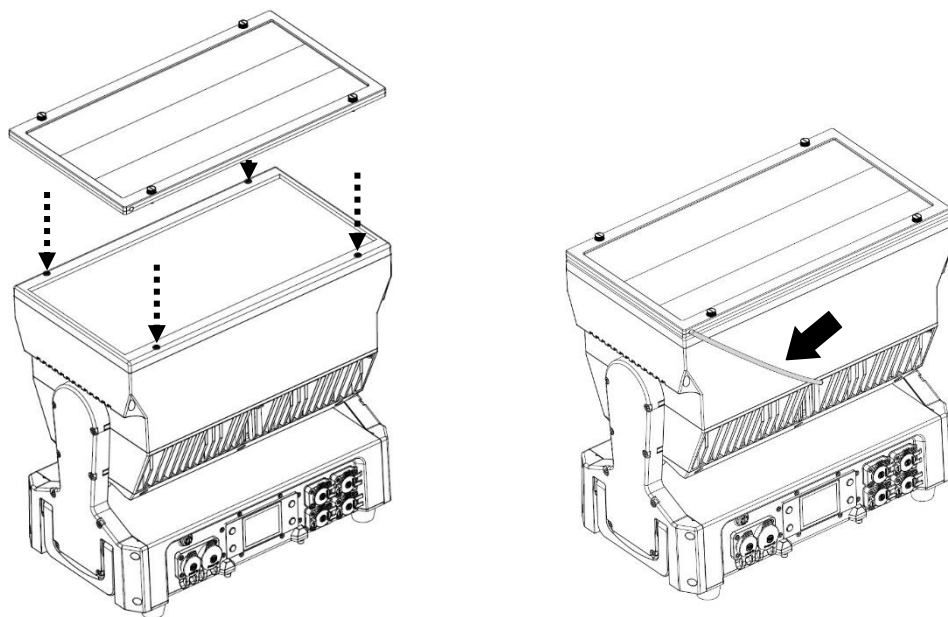

Figure 9. Installing a GLP E-Frost Filter
1. See Figure 9 and follow the instructions in 'Installing optical accessories' above.